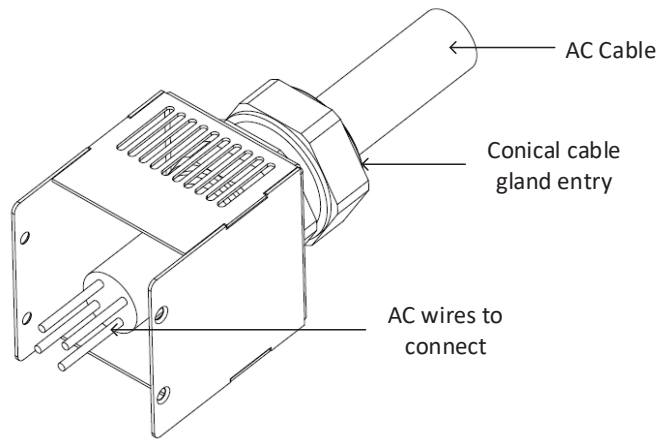
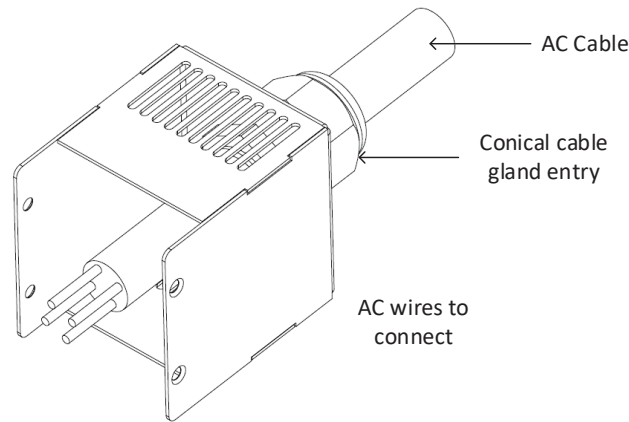

Figure 4-33: Stripped Wires Inserted Through 3-Phase 208 Strain Relief Bracket
Figure 4-34: Stripped Wires Inserted Through 3-Phase 400/480 Strain Relief Bracket
5. Insert the AC cable through the conic cable gland entry and the strain relief bracket. For 3-Phase 208, refer to Figure 4-33. For 3-Phase 400/480, refer to Figure 4-34.